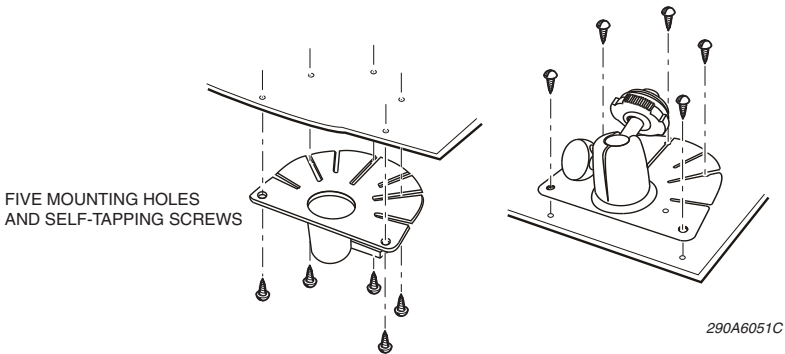

Figure 6. Monitor mounting bracket and hardware
1. Use the standard mounting bracket for the monitor as a template to mark the five mounting holes for the self-tapping mounting screws (Figure 6). If you are using the optional heavy-duty mount, use the mount as a template for marking mounting holes.